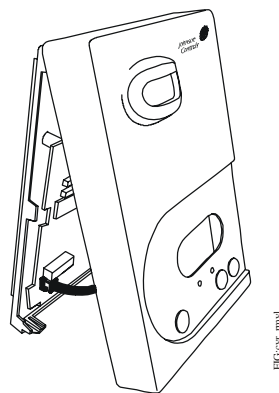

Figure 2: Removing the Zone Controller Cover
1. Pull the bottom edge of the zone controller cover and open the zone controller as illustrated in Figure 2.